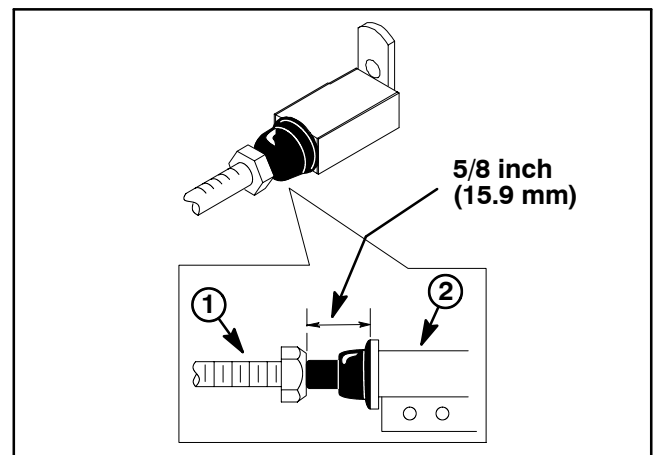

Figure 12
2. With the accelerator pedal released, check that the distance between the head of the accelerator switch stop cap screw and the body of the switch is 5/8 inch (15.9 mm) (Fig. 12).